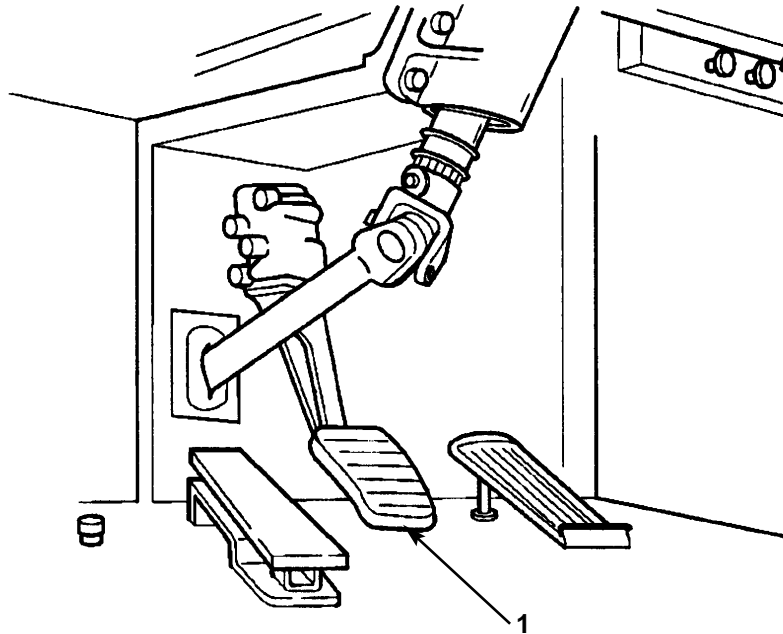

Figure 1. Applying Service Brake Pedal.
2. Apply service brake pedal (figure 1, item 1) evenly to slow tractor, and gradually pump service brake pedal (figure 1, item 1) as necessary to avoid locking wheels and skidding during a stop.
3. On wet or slippery surfaces, lightly apply service brake pedal (figure 1, item 1) once or twice prior to stopping to help avoid skidding. Refer to WP 0006.